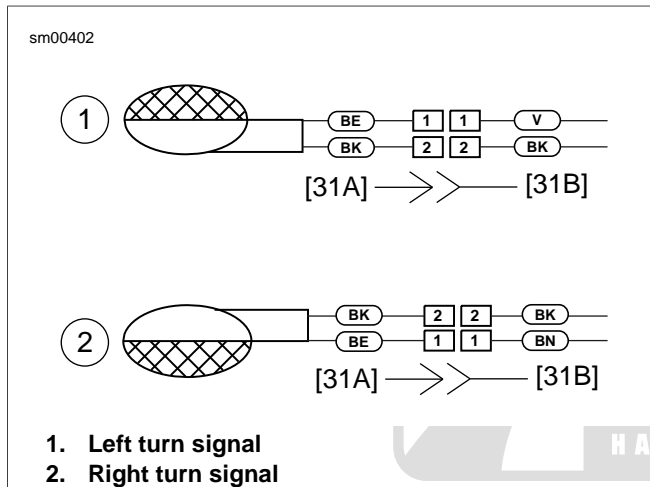
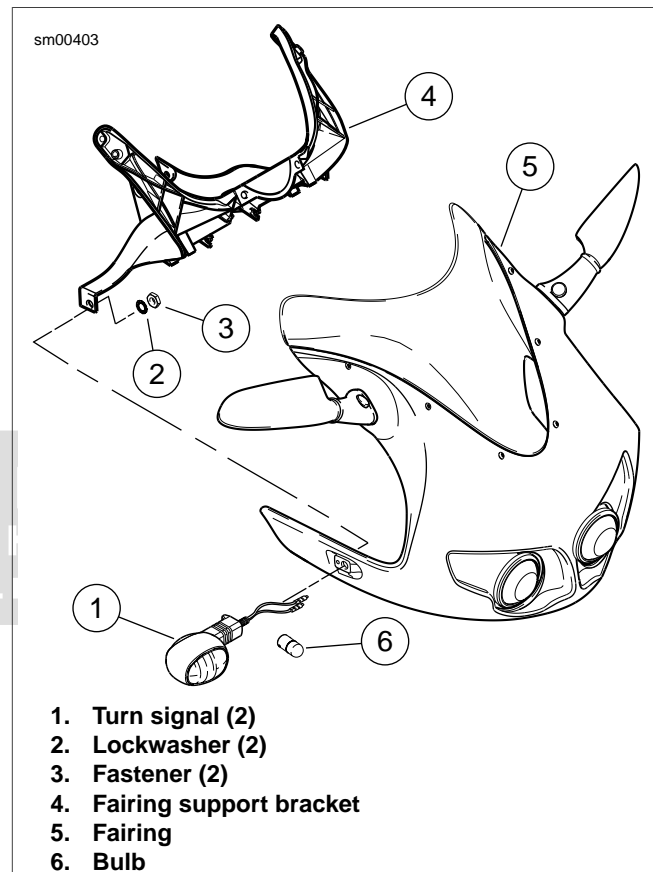

Figure 6-48. Front Turn Signal Connections
Figure 6-49. Front Turn Signals: Firebolt
2. See Figure 6-49. Remove fastener (3) and lockwasher (2) from fairing support bracket (4).
3. Pull bullet connectors and wiring through hole in fairing support bracket (4) and fairing (5).
1. See Figure 6-49. Insert bullet connectors and wiring through hole in fairing (5) and fairing support bracket (4).
2. Install turn signal (1) using lockwasher (2) and fastener (3). Tighten fastener to 25-28 **in-lbs** (2.8-3.2 Nm).
3. Attach bullet connectors on turn signal wires as shown in Figure 6-48.
2. See Figure 6-48. Disconnect bullet connectors on turn signal wires.